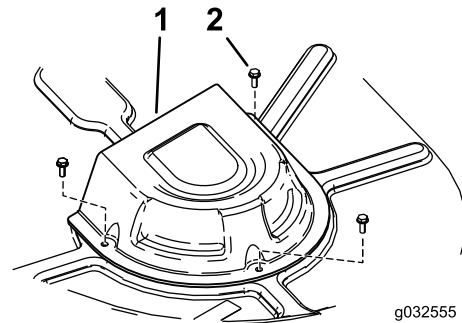

Figure 46
4. For machines with a 107 cm (42-inch) deck, remove the pulley covers (Figure 46).